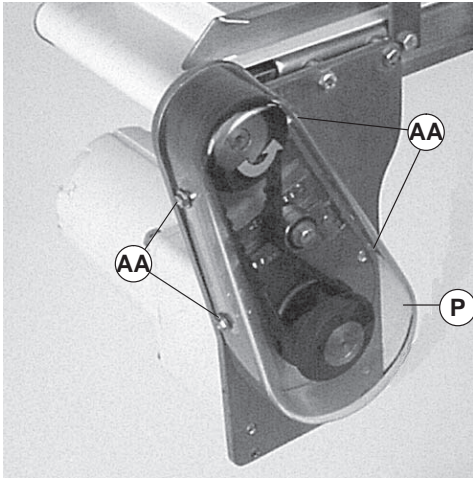

Figure 8
Do not over-tighten screws (Figure 8, item AA).
- Install cover (Figure 8, item P) and tighten four screws (AA) to 35 in-lb (4 Nm).